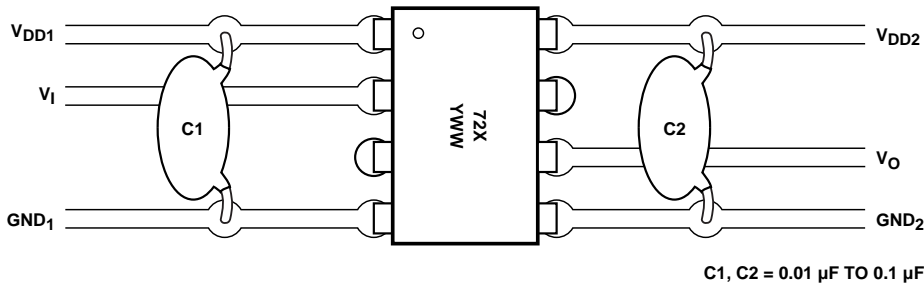

Figure 11. Recommended printed circuit board layout.
0.1 μF . For each capacitor, the total lead length between both ends of the capacitor and the power-supply pins should not exceed 20 mm. Figure 11 illustrates the recommended printed circuit board layout for the HCPL-772X/072X.